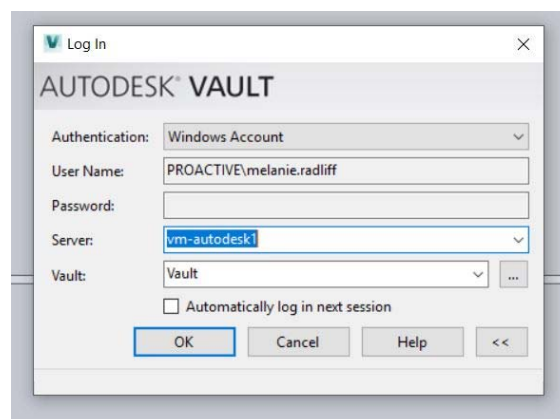

Figure 2-3, Log In Screen
6. Reference Figure 2-3, Log In Screen for an example of all correct information